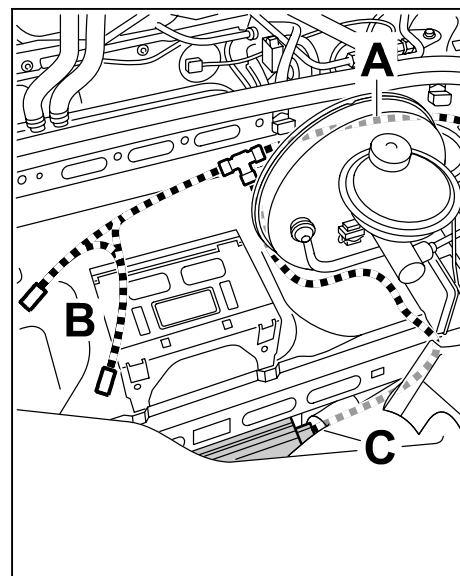

Figure 7
- 6.4 Route optical waveguide from optical waveguide connection point ⇒ *Figure 7-A-* along the front panel to the navigation unit installation position ⇒ *Figure 7-B-* and possibly to the amplifier ⇒ *Figure 7-C-* or CD changer and secure at this position.